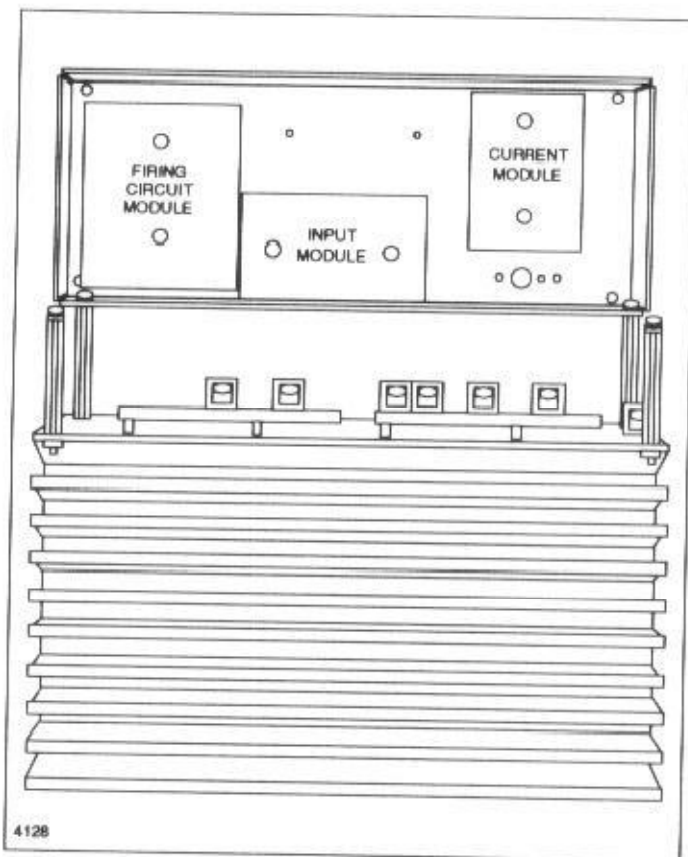

Figure 5-16. Model 664 controller with cover plate on edge for access to modules.
3. Remove the cover plate and place it on its edge (see figure 5-16).
3. Remove the cover plate and place it on edge (see figure 5-16).